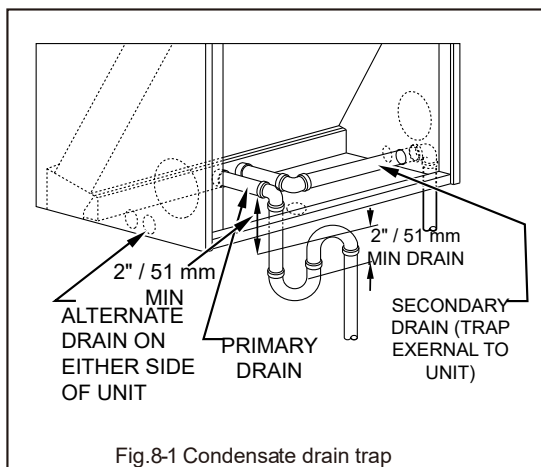

Fig.8-1 Condensate drain trap
- Make provisions for disconnecting and cleaning of the primary drain line should it become necessary. Install a 3 inch trap in the primary drain line as close to the unit as possible. Make sure that the top of the trap is below the connection to the drain pan to allow complete drainage of pan (See Fig. 8-1).